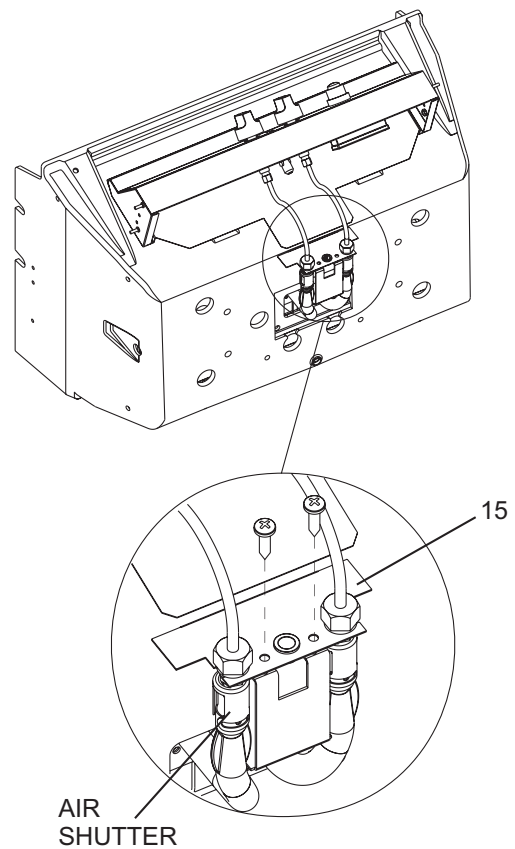

Figure 5
The gas jets from the control valve will be inside the ends of the venturi tubes when properly installed. Attach venturi to manifold mounting bracket (15) with 2-8 x 3/4 Phillips screws. Figure 5.